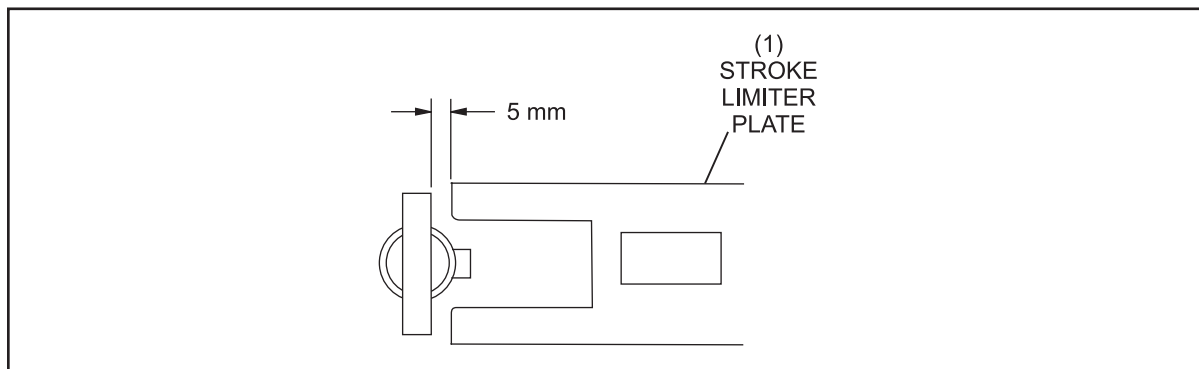

Figure 5-43. Stroke Limiter Clearance.
2. Manually push in the plunger of the stroke limiter solenoid. Check for a clearance of 5 mm + 1 mm between the "T" stop and the stroke limiter plate. Refer to *Figure 5-43* and 5-44. To adjust, loosen both solenoid mounting screws and hold the plunger so its bottomed in the solenoid. Reposition the solenoid to achieve a 5 mm clearance. Retighten the mounting screws.
3. With the stroke limiter plate forward in its normal position, check that the plate is centered on the "T" stop. If not, adjust the stroke limiter plate mounting bolt and center the hydraulic shock on its lower mounting shaft by loosening the set collars and moving the hydraulic left or right. Refer to *Figures 5-43*.